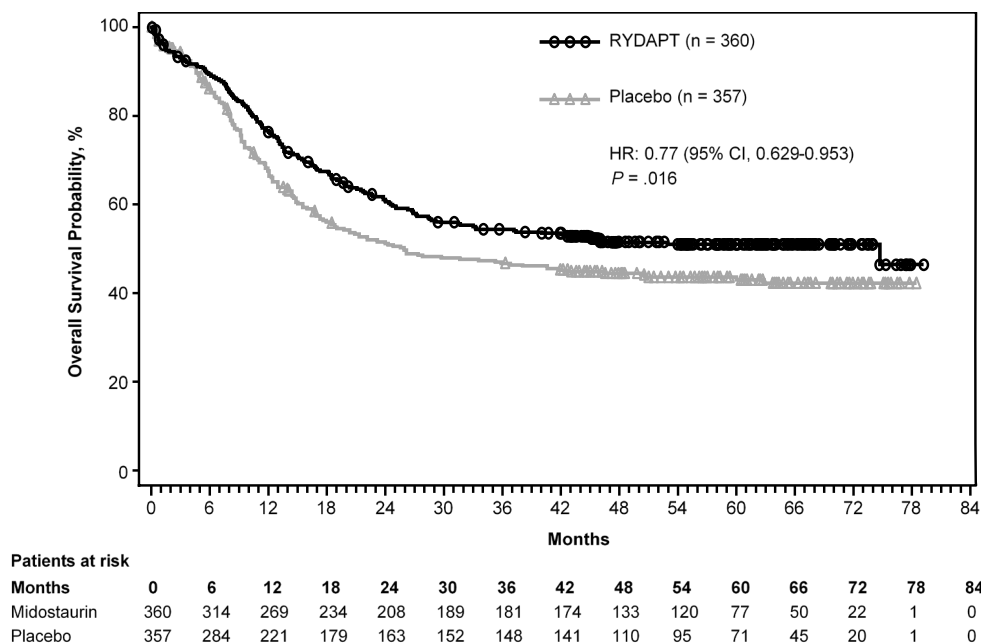
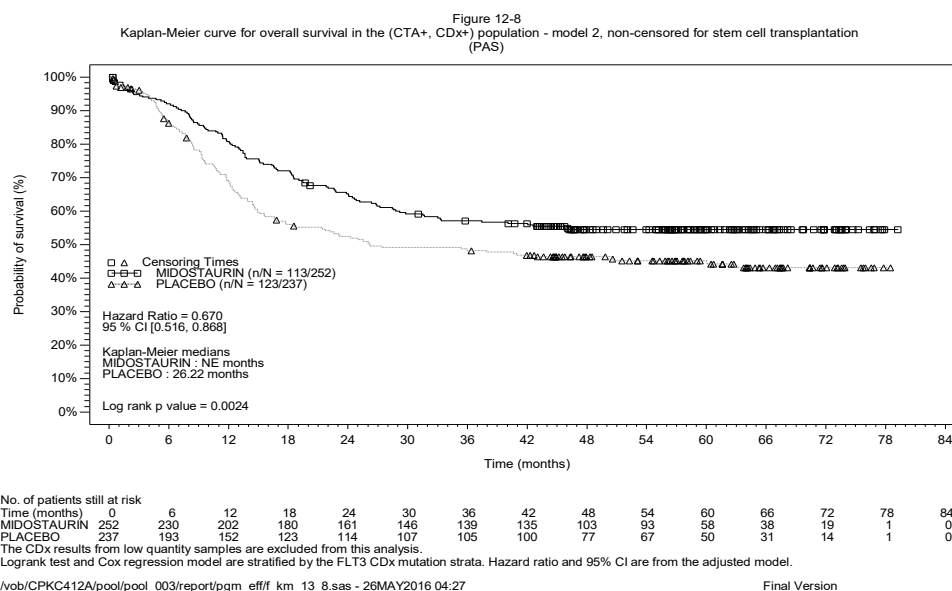

Figure 9: Kaplan-Meier for overall survival in the A2301 Trial in the CTA+ population.
Figure 10: Kaplan-Meier for overall survival in the A2301 Trial in the CTA+ CDx+ population.
17.6.3. In the clinical trial, efficacy was established on the basis of overall survival (OS) using the CTA, measured from the date of randomization until death by any cause. The primary analysis was conducted after a minimum follow-up of approximately 3.5 years after the randomization of the last patient. midostaurin plus standard chemotherapy was superior to placebo plus standard chemotherapy in OS (HR 0.77; 95% CI 0.63, 0.95; 2 sided p=0.016) (Figure 9). Because survival curves plateaued before reaching the median, median survival could not be reliably estimated.
- 17.7.1. Midostaurin efficacy on overall survival in the CDx-positive population was estimated. Efficacy determined in the (CTA+, CDx+) population was similar between the overall A2301 clinical trial results and the CDx tested subset and for both overall survival with non-censoring at stem cell transplant (See Figure 9 and Figure 10, respectively). Hazard ratio (95% CI) outcomes for OS were 0.67 (0.52, 0.87) vs A2301 OS 0.77 (0.63, 0.95).